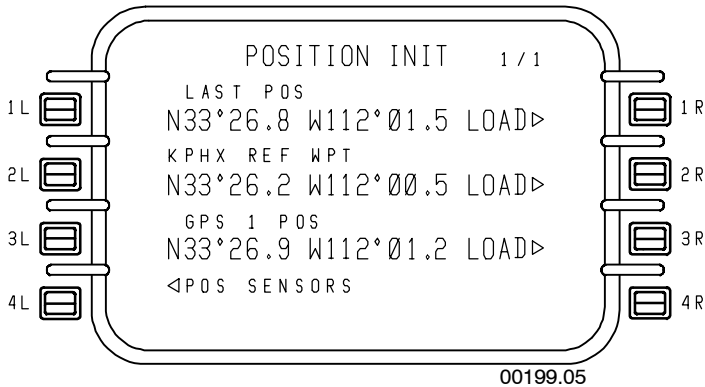

Figure 4-7
- **POSITION INIT 1/1** - Figure 4-7 displays the LAST POS coordinates at 1L. At 2L, the closest RAMPX within 3 NM of the last position (1L) is displayed (refer to RAMPX, page 6-175). If no